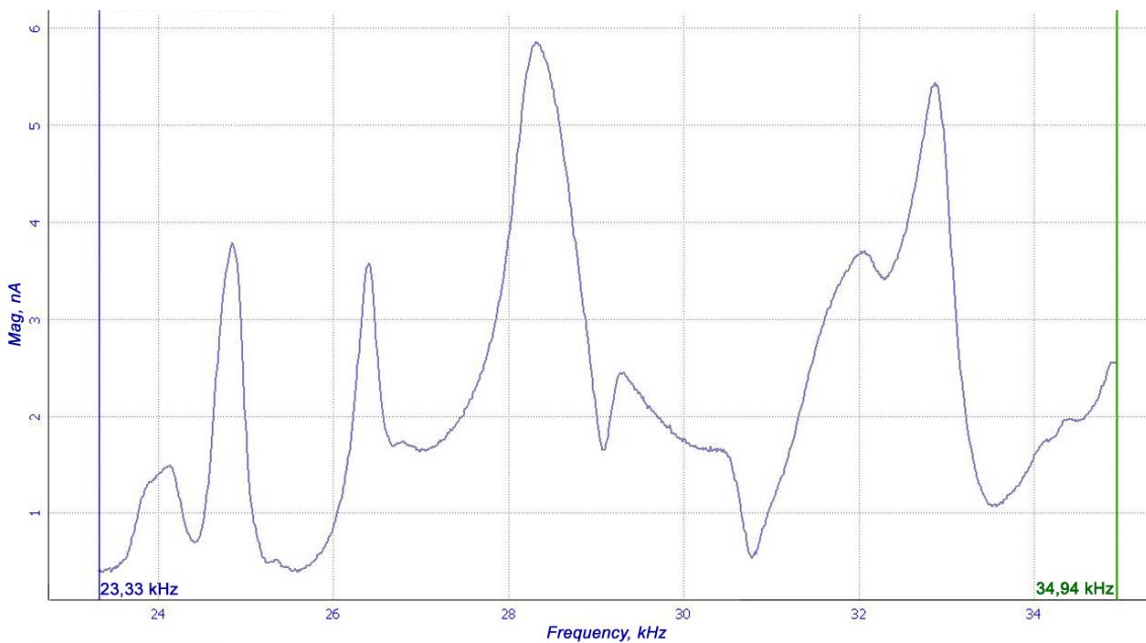

Fig. 3-13. Cantilever resonance curve in the free state
10. Click **Run** button to plot the resonance curve for the selected range (Fig. 3-13).